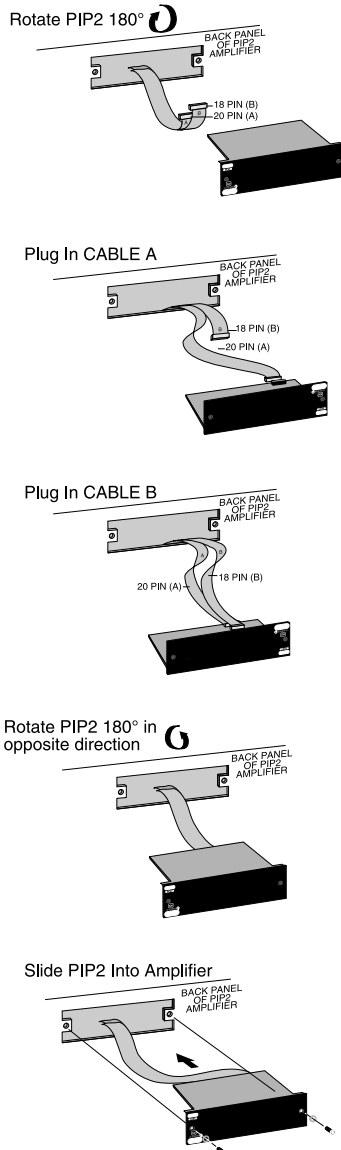

Figure 2.1 Installing the PIP Module
2. **Install the PIP module into the amplifier:** Turn the PIP module over so that you can clearly see the two ribbon-cable connectors located on the underside of the circuit board (see Figure 2.1). Connect the two input ribbon cables of the amplifier. The 20-pin cable (A) should be connected first, then the 18-pin cable (B) should be connected.
Both ribbon cables should run smoothly from the amplifier to the PIP card (see Figure 2.1).